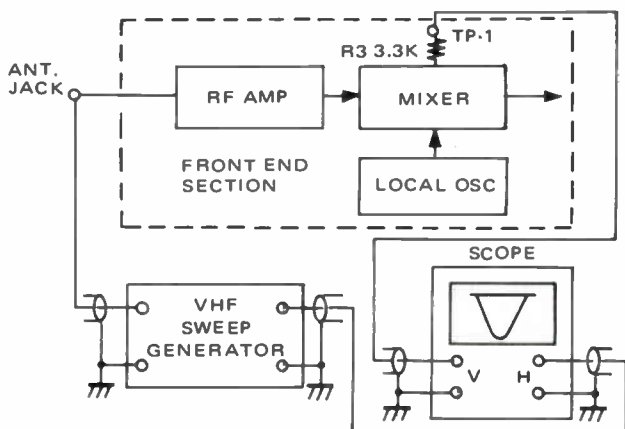

Figure 5. RF TEST SETUP
Step 1: Connect the instruments as shown in Figure 5.